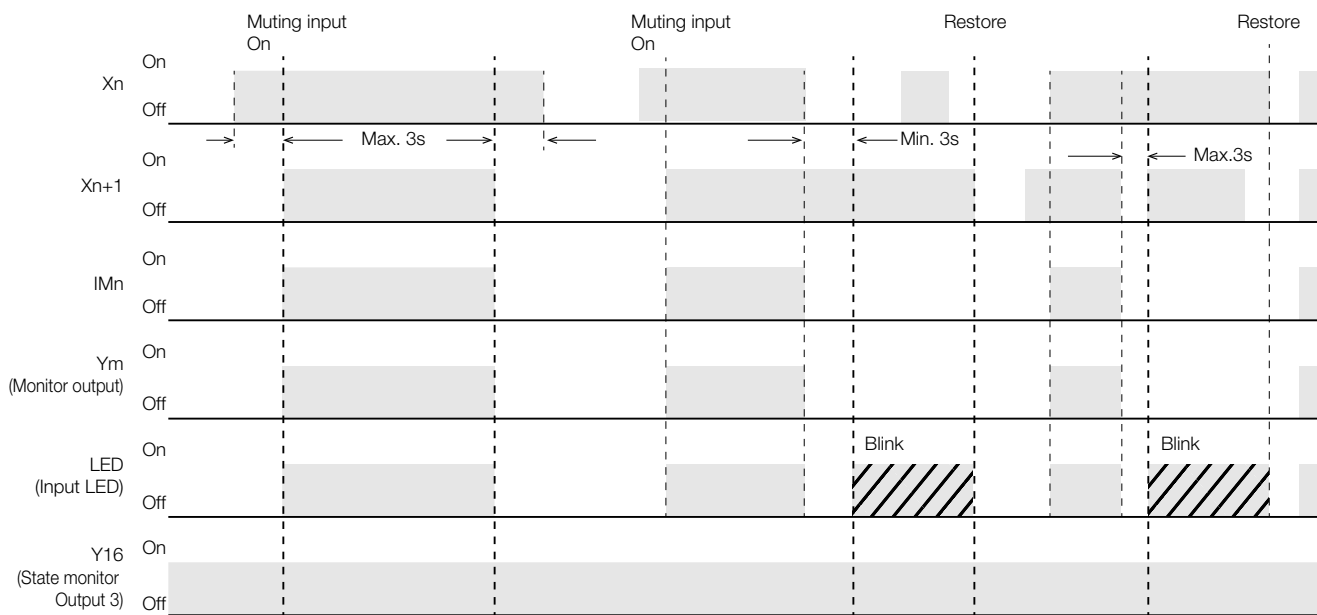

Figure 5.153 Operation timing of muting input
The operation timing is described in figure 5.153.
- Due to an abnormality in the safety component or input circuit (welding of contacts, short circuit or disconnection wiring, etc.), the two of receive circuits are both on and one receive circuit (Xn+1 in figure 5.153) returns to its original state, even if the time is less than 3s, an alert condition will occur and the input LED will blink. The function output is not turned on at that time.